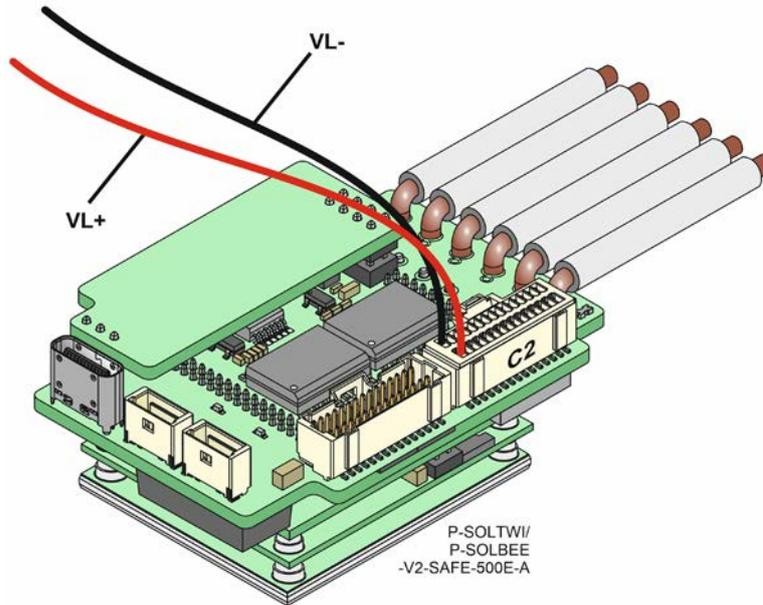

Figure 14: Connecting the Control Supply Wires
3. Connect the VL+ and VL- wires to the terminals on the servo-drive as shown in Figure 14.